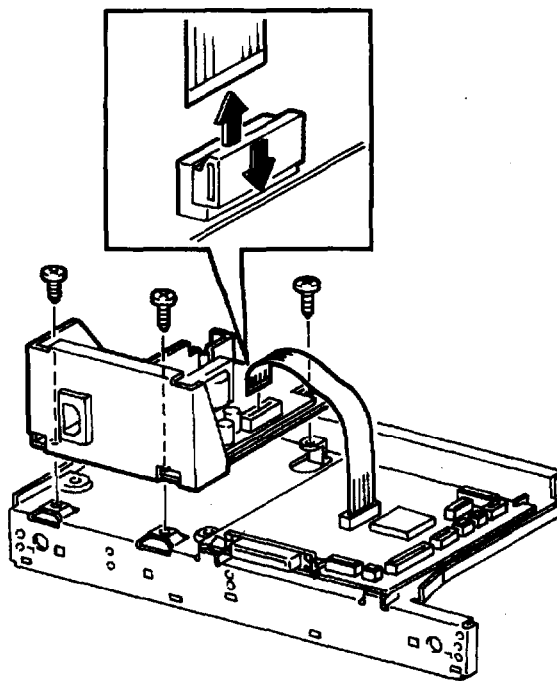

Figure 4-9. Removing the LVPS
5. Release the LVPS to Main Controller PWBA Harness from the LVPS PWBA by pushing down on the top of P/J111 on the LVPS PWBA (Figure 4-9).